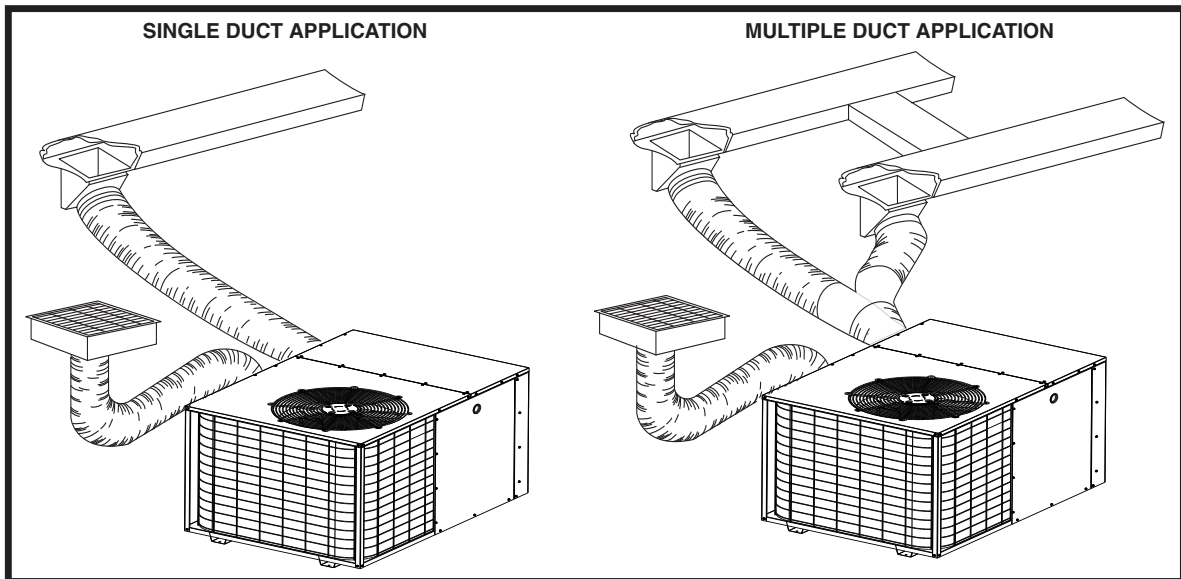

Figure 5. Typical Duct Applications
- The supply duct system, including the number and type of registers, will have much more effect on the performance of the system than any other factor. The duct must be sufficiently large to conduct an adequate amount of air to each register. See Figure 5 (page 7).